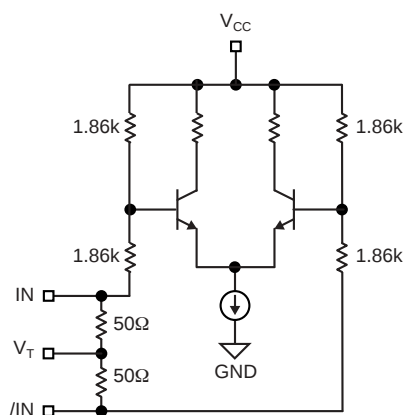

Figure 2a. Simplified Differential Input Buffer
- Note 3.** Due to the internal termination (see Figure 2a) the input current depends on the applied voltages at IN, /IN and V_T inputs. Do not apply a combination of voltages that causes the input current to exceed the maximum limit!
Note 3. Measured as per Figure 2a, 100 Ω across Q and /Q outputs.